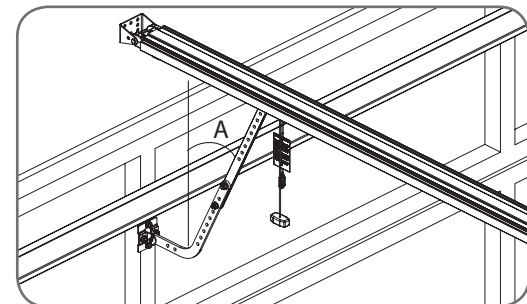

Fig. 23
- Assemble the bent and straight arms with bolts and nuts supplied in the accessory pack (**Fig. 23**). Always use both bent and straight arms.
- Connect the assembled arm to the bracket and the disengaged trolley with clevis and snap pins. The angle "A" must be more than 10° (**Fig. 23**).